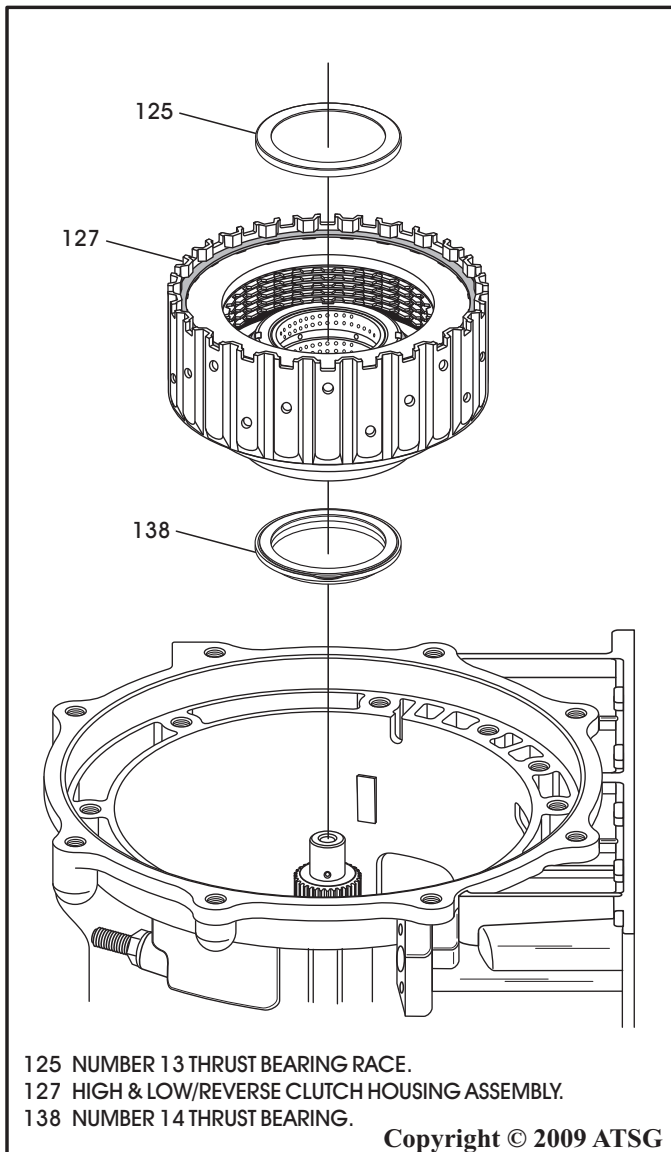

Figure 50
34. Remove the number 13 thrust bearing race, as shown in Figure 50, from the high and low reverse clutch housing.
35. Remove high and low reverse clutch housing from the case, as shown in Figure 50.
36. Remove the number 14 thrust bearing from the high and low reverse clutch housing, as shown in Figure 50.